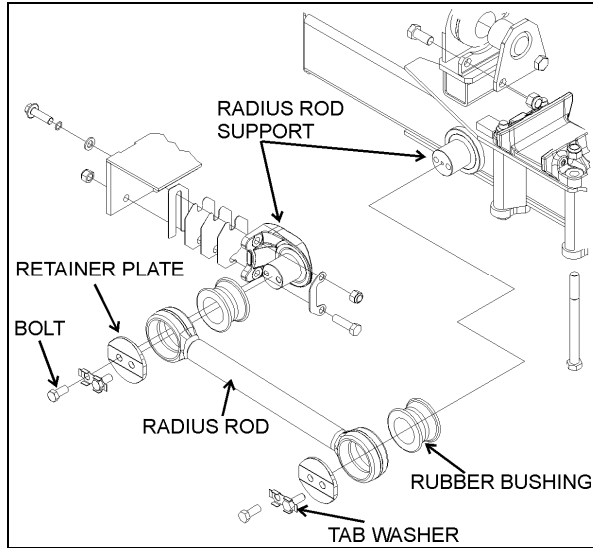

FIGURE 46: TYPICAL RADIUS ROD SETUP
1. Flatten the tab washer which secures the two retaining bolts, and then unscrew the bolts at each extremity of the radius rod (Fig. 46).
1. Lightly spray the radius rod support with water. Place the radius rod end over the radius rod support (Fig. 46).